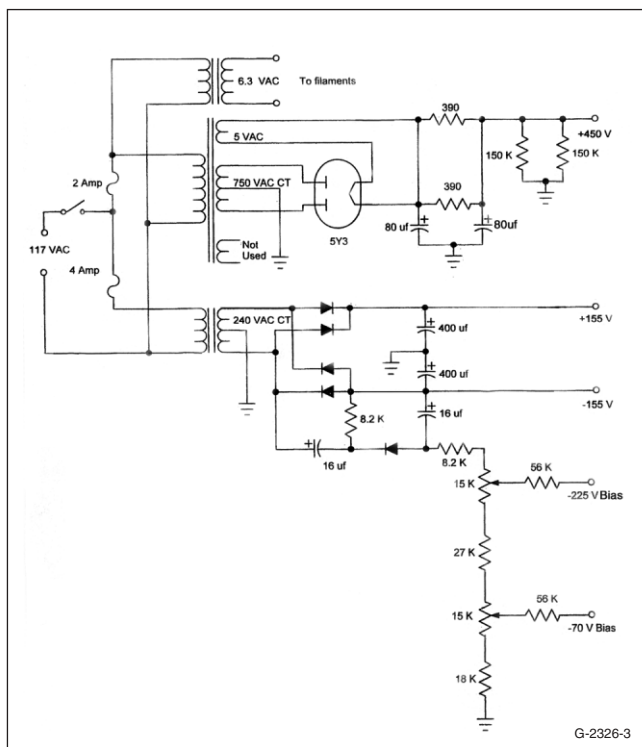

FIGURE 3: Power-supply modification circa 1961.
2. I modified the power supply (Fig. 3). The original amplifier was line operated, which I didn't like. I had an old console radio that I had taken apart (now I wish I still had it intact) that had the parts for a +450V power supply using an old type 80 tube. I used the power transformer from the unit and replaced the type 80 with an electrically identical 5Y3. This changed the plate supply to both sections of the 6SN7 to 450V.